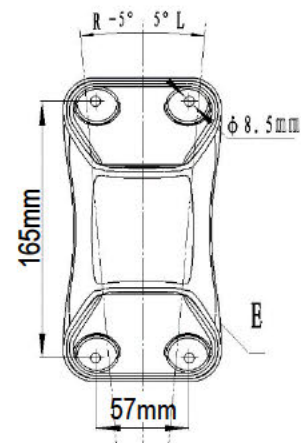

Fig. 3
3. Install the mounting bracket to the wall or post horizontally. (Fig. 3 - 5)